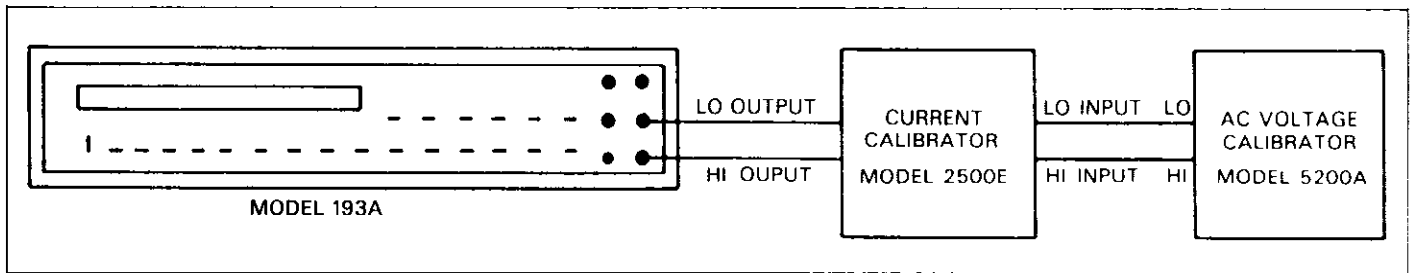

Figure 4-7. Connections for TRMS AC Current Verification
2. Connect the AC current calibration source to the Model 193A as shown in Figure 4-7.